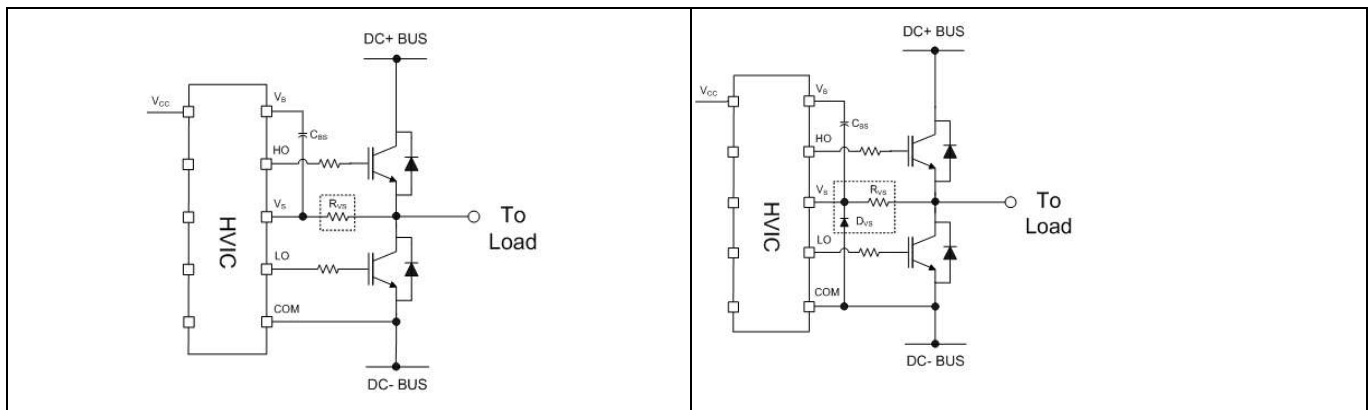

**Figure 23 Avoid antenna loops**
**Gate Drive Loops:** Current loops behave like antennas and are able to receive and transmit EM noise (see Figure 23). In order to reduce the EM coupling and improve the power switch turn on/off performance, the gate drive loops must be reduced as much as possible. Moreover, current can be injected inside the gate drive loop via the IGBT collector-to-gate parasitic capacitance. The parasitic auto-inductance of the gate loop contributes to developing a voltage across the gate-emitter, thus increasing the possibility of a self turn-on effect.